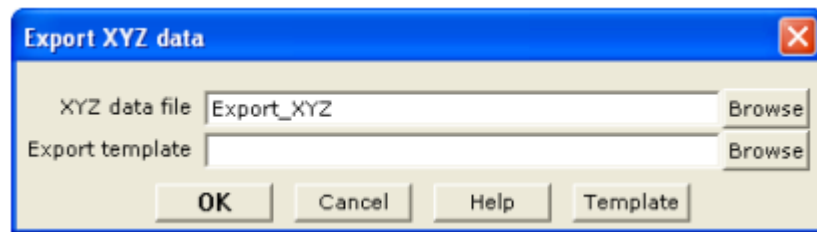

Figure 1.102 – Selecting XYZ file to export it
2. On the *Database menu*, click *Export*, and then click *Geosoft XYZ*. The *Export XYZ data* dialog box is displayed, fig. 1.102.